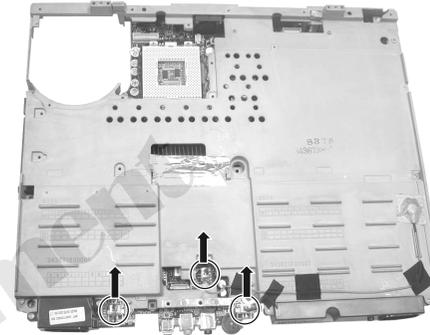

Figure 2-29 Disconnect three wires
9. Disconnect three wires from system board. (Figure 2-29)